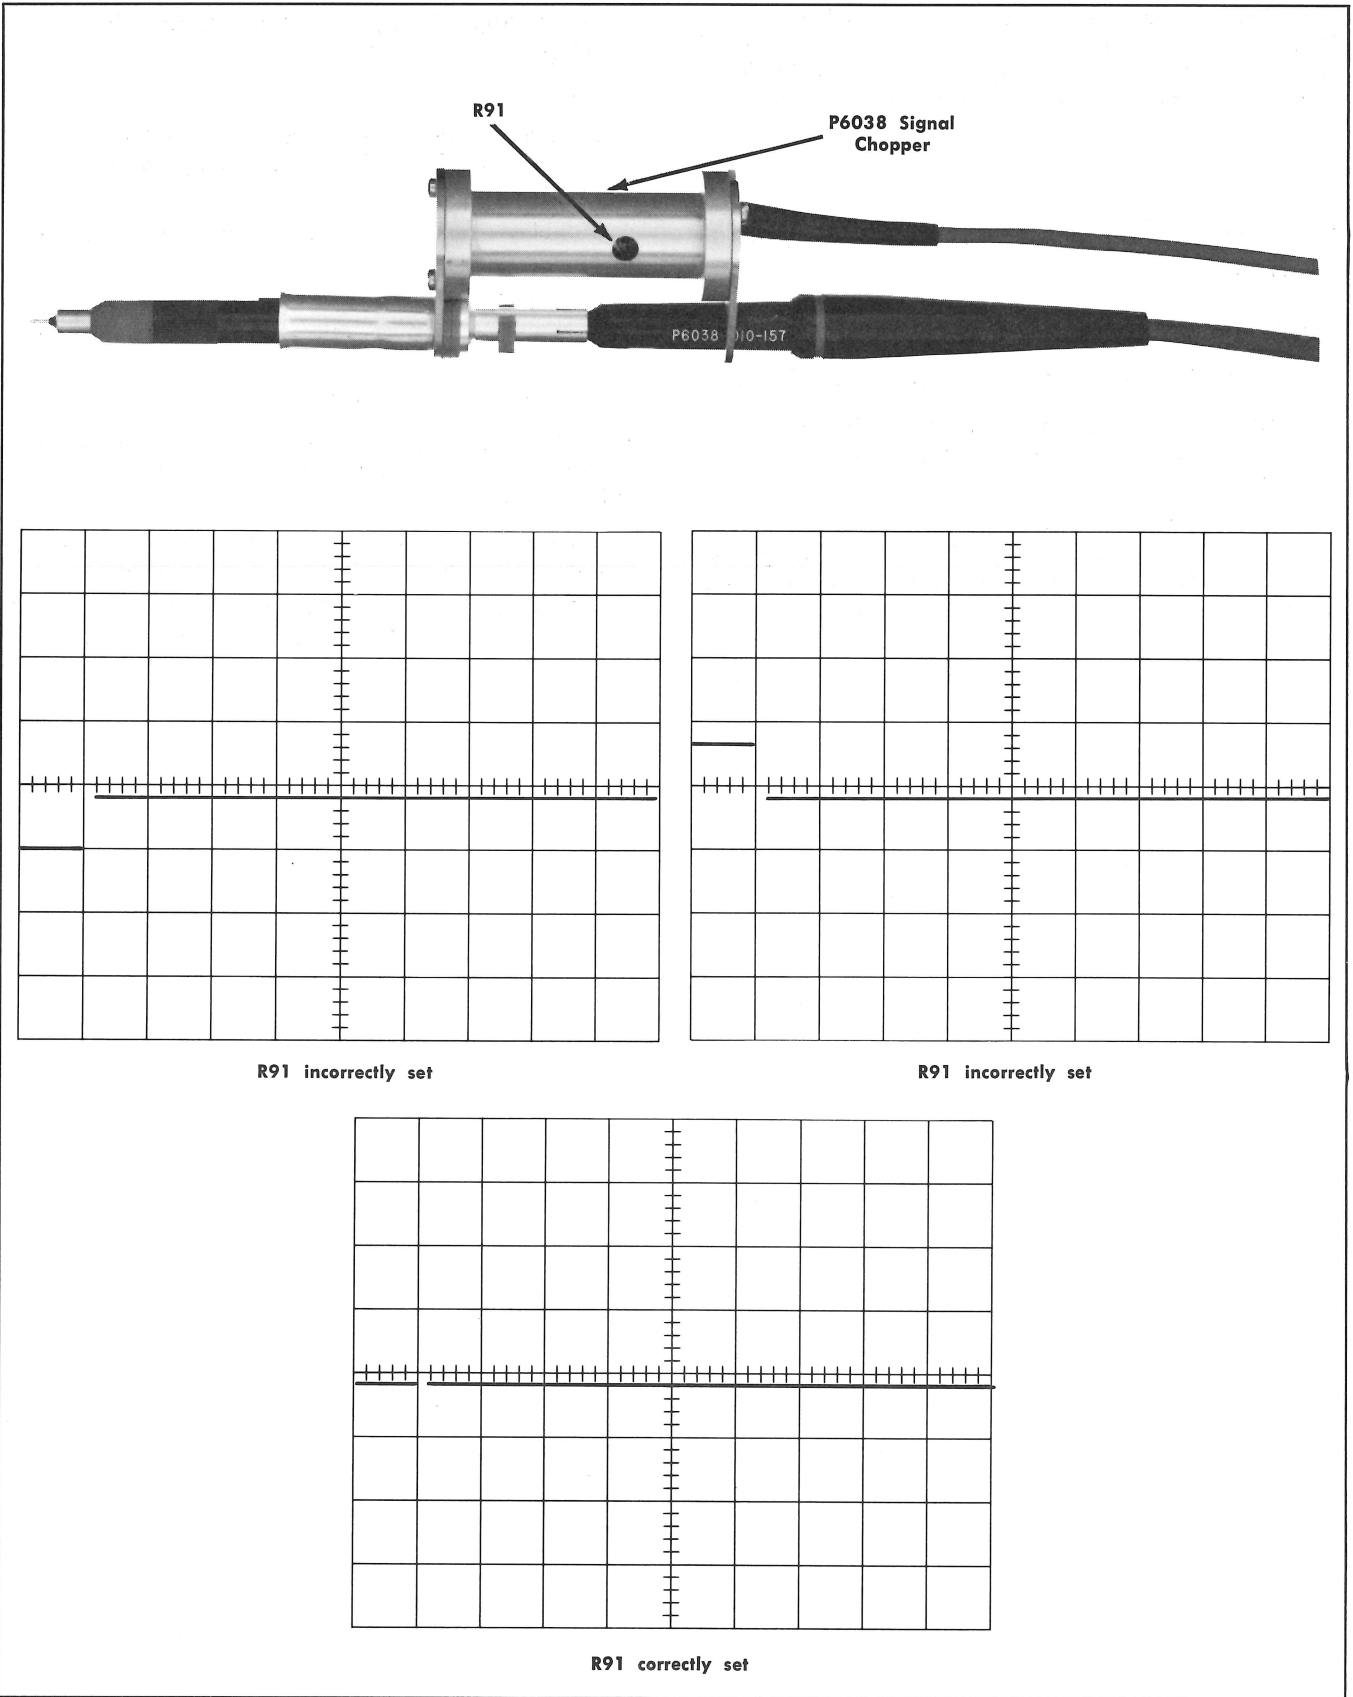

Fig. 5. Location of R91 along with correct and incorrect displays obtained when adjusting R91.
- d. Adjust R91 (located in Chopper body) to obtain a straight horizontal line (see Fig. 5). NOTE: The ground reference established in part (a) of this step is approximately the first centimeter portion of the displayed trace.